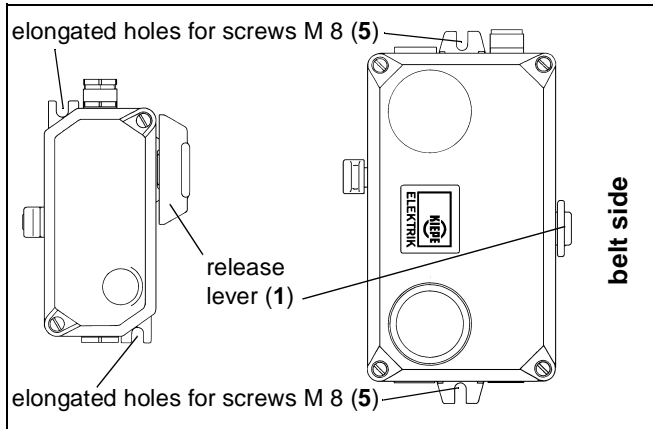
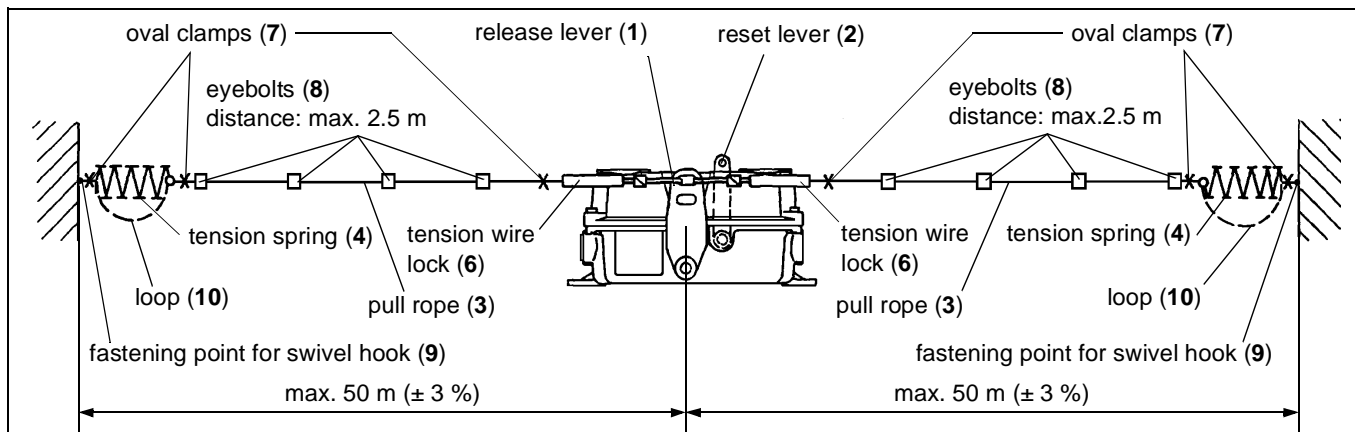
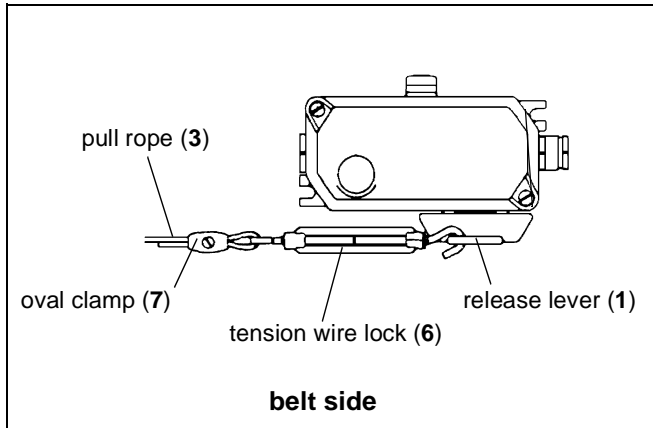

Fig. 5-2: Fastening the pull rope switch
Fig. 5-4: Mounting on the conveyor belt structure an adjusting spring tension
Fig. 5-5: Securing the tension wire lock
- Fasten the emergency cord switch *concentrically* between the fastening points to the conveyor belt construction (s. fig. 5-4).
Here the pull rope switch release lever (1) must face the belt. Fasten the pull rope switch with two screws M 8 (5) through the elongated holes (s. fig. 5-2).
- The fastening points for the swing hooks (9) have to be mechanically stable structural parts, from which the swing hooks (9) cannot tear out when the pull rope (3) is actuated
Attach the swing hooks (9) to the fastening points (s. fig. 5-4).
7. Mount the eyebolts (8) on the conveyor belt structure to guide the pull rope (3) (s. fig. 5-4).
8. Pull the pull rope (3) through the eyebolts (8) (s. fig. 5-4).
Due to the symmetrical arrangement, the neutral position of the release lever (1) is not affected by variations in temperature. Stretching and retraction of the pull rope (3) caused by variations in temperature is equalized by the tension springs (4) (s. fig. 5-4).
9. Completely release the tension wire locks (6) (s. fig. 5-5).
10. Pull one end of the pull rope (3) through the eyelet of the tension wire lock (6) and hang the tension wire lock (6) on the release lever (1).
11. Tighten the pull rope (3) so that the tension spring (4) is stretched by 35 mm (s. fig. 5-4).
12. Fasten this end of the pull rope (3) with an oval clamp (7) (s. fig. 5-5).
13. Unlock the tension wire lock (6) again. Unlock the pull rope switch by means of the reset lever (2) (s. fig. 5-4).
14. Repeat steps 5. to 12. to mount the pull rope (3) on the other side of the pull rope switch (s. fig. 5-4).
15. Hook both tension wire locks (6) and actuate the pull rope switch release lever (1) (s. fig. 5-4).
16. Set the release lever (1) in the central position with the tension wire locks (6) and set the lengths of the tensioned tension springs (4) to about 210 mm (s. fig. 5-4).